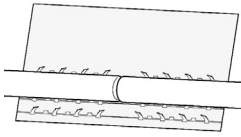

Figure 4
7. Repeat this process with the second nerve stump on the opposite side of the device, such that the two nerve stumps are positioned in close approximation (Fig. 4).